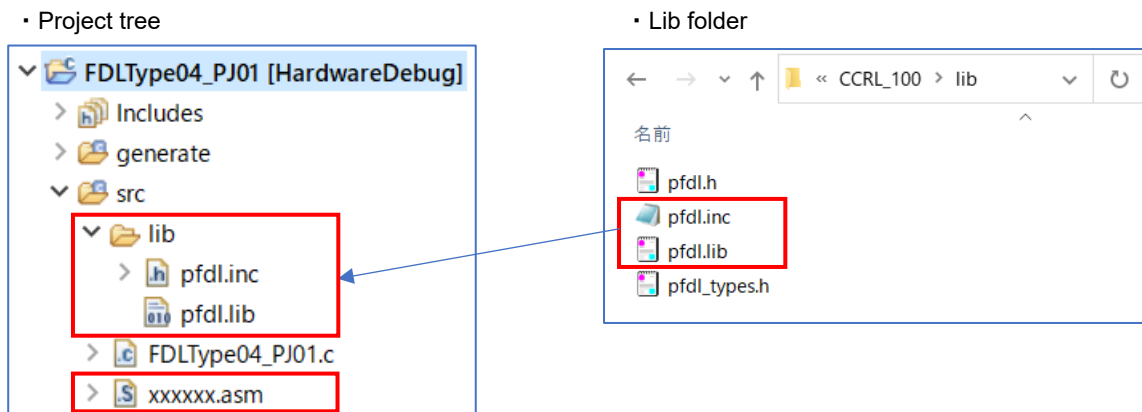

Figure 6-20. Specifying the Source and Include Files (CC-RL)
- CC-RL: Register user program file (“xxxxxx.asm”), the data flash library files “pfdl.inc” and “pfdl.lib” in the “src” folder output by e² studio. (Figure 6-20)